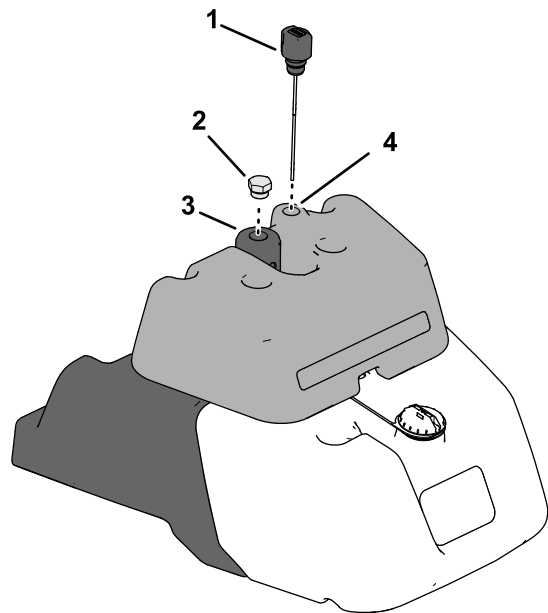

Figure 46
2. Check the hydraulic-fluid level by locating the dipstick for the hydraulic system at the top of the leak detector tank (Figure 46).